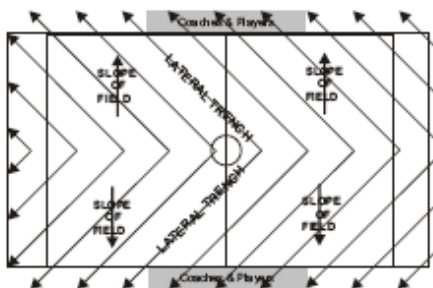

Fig. 8 Lateral Trenches
2. Place lateral trenches across field (See Fig. 8) Lateral trenches should intercept slope at 45-degree angles. Include extended area along sidelines for coaches & players.